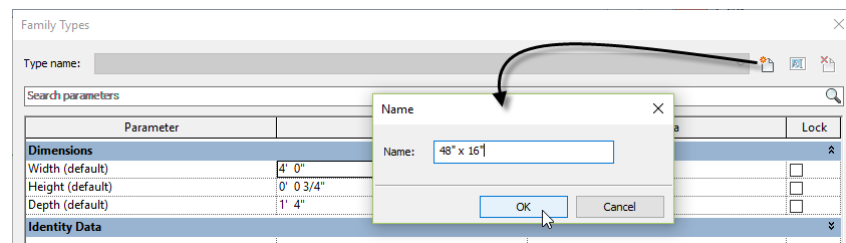

Figure 27
3. At the top of the “Family Types” dialog, on the right, click the New icon. Input: **48" x 16"** for the name and then click OK (see Figure 27).